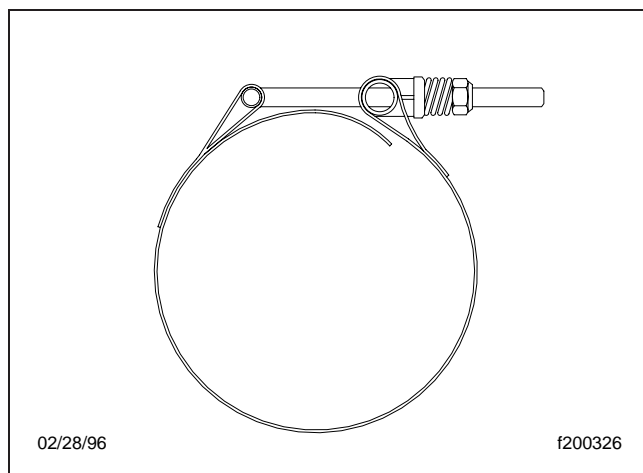
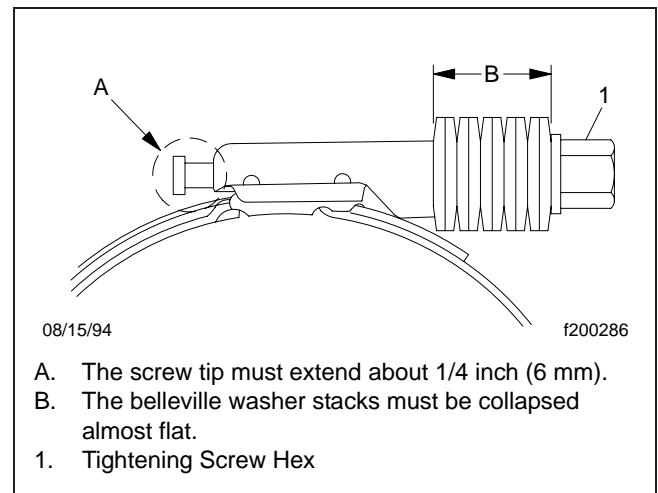

Fig 6, T-Bolt Type Hose Clamp
Fig 7, Breeze Constant-Torque Hose Clamp Installation
11. Connect the hoses. The hose clamps can be either T-bolt clamps (Fig. 6) or Breeze Constant-Torque clamps (Fig. 7).